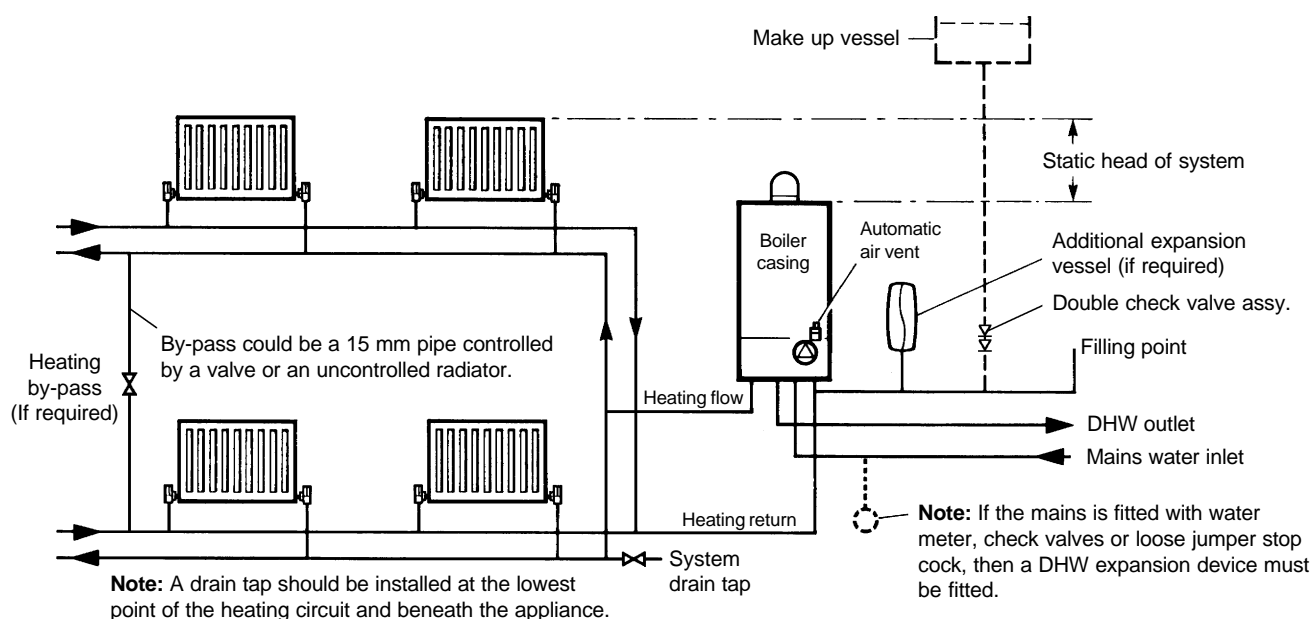
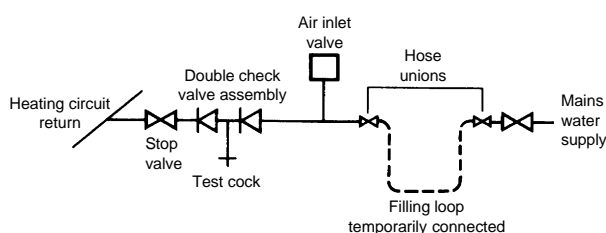
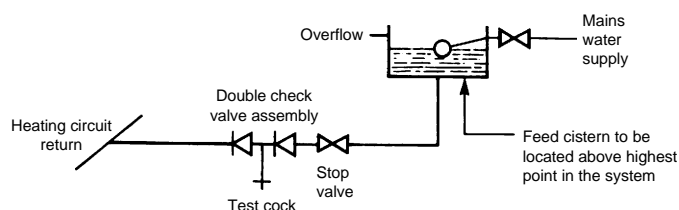

Fig. 5
Fig. 6
Fig. 7
3.7 CENTRAL HEATING SYSTEM - Fig. 5
System volume - The expansion vessel incorporated into the boiler is suitable for a sealed heating system with a maximum water content of 80 litres (18 gal). Above that, consideration should be given to fitting an additional expansion vessel fitted in the position shown in Fig. 5. To check correct operation of the expansion vessel(s) the system pressure should not be more than 2.5 bar when the system is at maximum operating temperature (for further guidance refer to BS 7074:1).
3.8 FILLING THE CENTRAL HEATING SYSTEM - Figs. 6, 7
The system design pressure (cold) should be set to 1.0 bar. This pressure is equivalent to a static head (see Fig. 5) of 10.2 metres of water. Provision should be made to replace water lost from the system. This can be by manual or automatic means, as shown in Figs. 6 and 7. The position for connecting an automatic make-up vessel is indicated in Fig. 5. A double check valve assembly must be used, as shown in Fig. 7.
Filling of the system must be carried out in a manner approved by the local Water Undertaking. Where allowed, the system may be filled via a temporary connection as shown in Fig. 6. After filling, always disconnect the flexible hose of the filling loop.